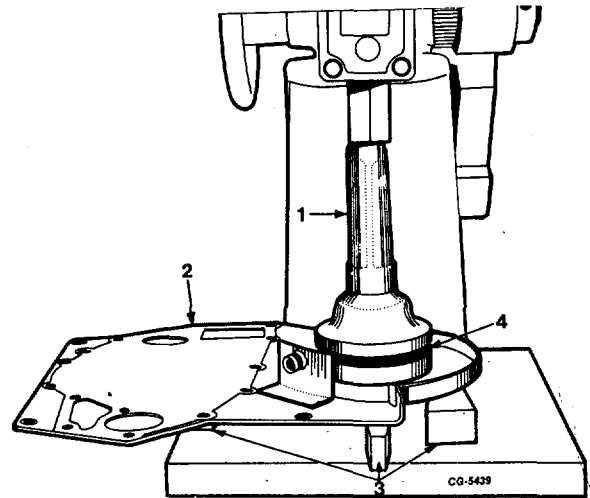

Fig. 147 Pressing New Seal in Engine Front Cover Using SE-1949 Installer and Support Blocks
15. Press new oil seal in engine front cover using SE-1949 installer and support blocks, Figure 147. Install oil seal flush to .010" below front face of front cover.